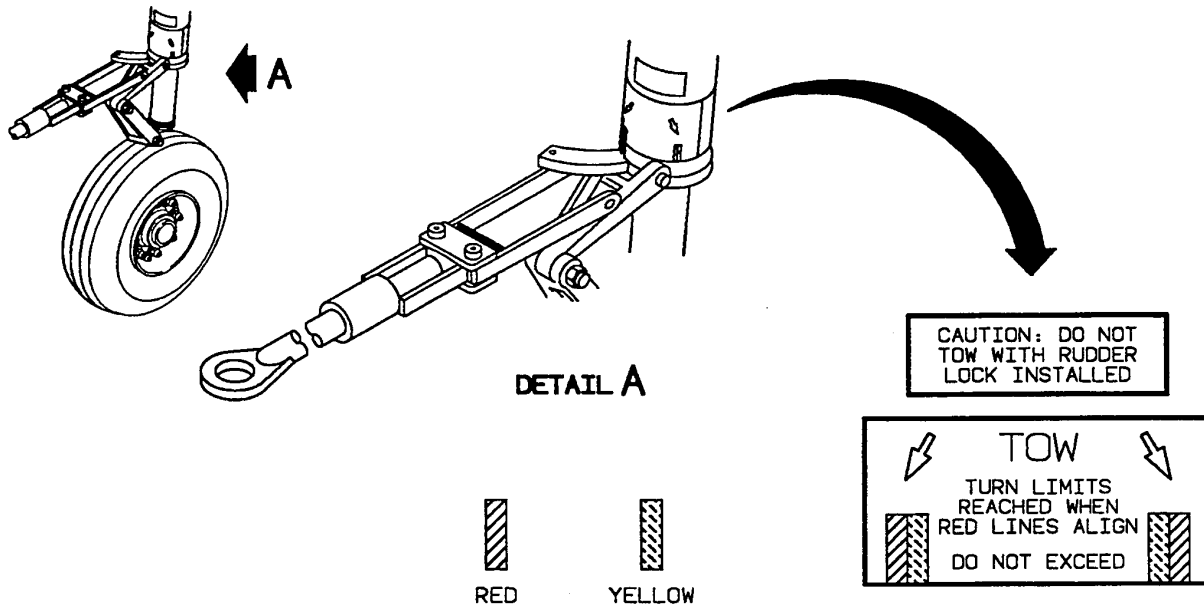

Figure 2-46. Towing Turn Limits
When the aircraft is being towed, a qualified person should be in the pilot's seat to maintain control by use of the brakes. When towing, do not exceed nose gear turn limits, Figure 2-46. Avoid short radius turns, and always keep the inside or pivot wheel turning during the operation. Do not tow aircraft with rudder locks installed, as severe damage to the nose steering linkage can result. When moving the aircraft backwards, do not apply the brakes abruptly. Tow the aircraft slowly, avoiding sudden stops, especially over snowy, icy, rough, soggy, or muddy terrain. In Arctic climates, the main gears must tow the aircraft because an immense breakaway load, resulting from ice, frozen tires, and stiffened grease in the wheel bearings, may damage the nose gear.
(2) *Towing.* Towing lugs are provided on the upper torque knee fitting of the nose strut. When it is necessary to tow the aircraft with a vehicle, use the vehicle tow bar. Never exceed the turn limit arrows displayed on the placard located on the nose gear assembly. Refer to Figure 2-46.